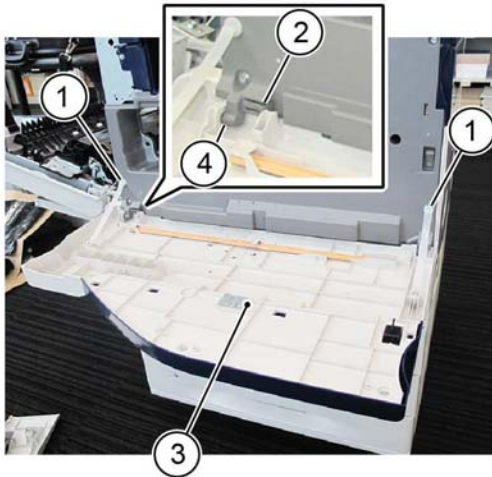

Figure 1 Front cover removal
2. Remove the front cover, Figure 1:
- a. Rotate the two straps (1) 90 degrees, then disconnect.
- b. Press the stopper (2), then move the front cover (3) to the left. Remove the front cover from the boss (4).